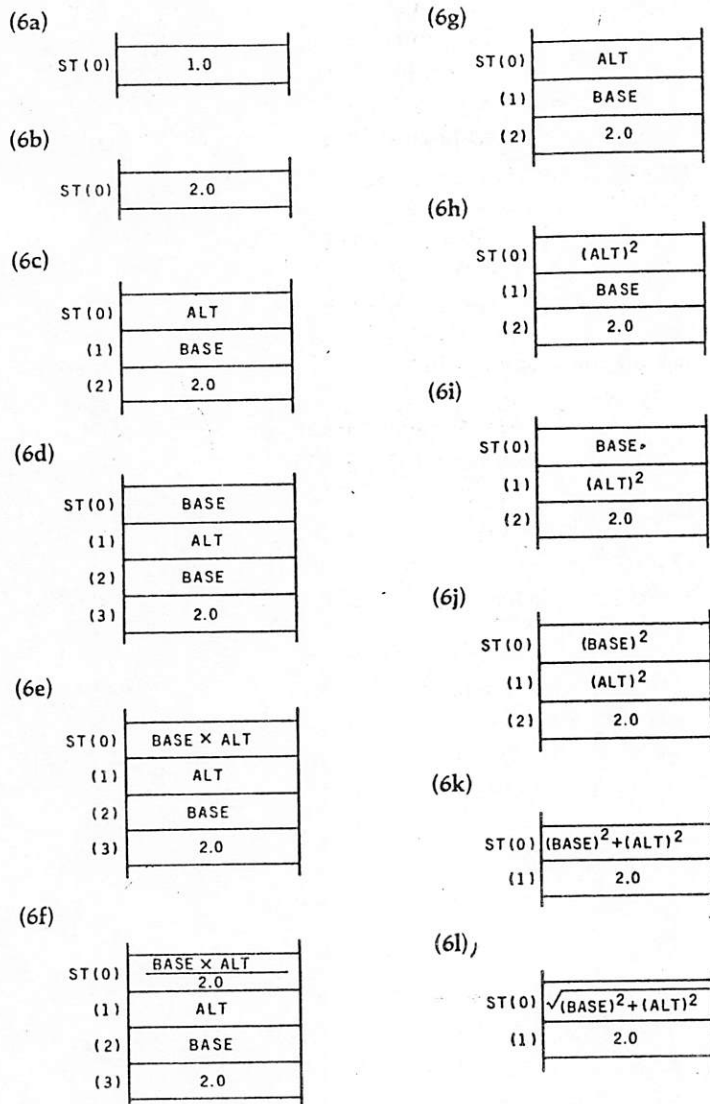

Figure 6: The status of the NPX stack during operation of the program in listing 1.
The following application of the 8087 uses an Intellec Series III Microcomputer Development System and Intel's 8087 software emulator (see listing 1). The program takes the base and altitude of a right triangle, which are stored in memory as two fields of a structure called TRIANGLE, and uses this data to calculate the area of the triangle and the length of its hypotenuse. Notice that I define the fields of the structure as double words (DD). This allows me to define the variables in the Short Real format. I will discuss the program using both the listing and a chart in figure 6 that tracks the status of the NPX's stack as references. When I refer to the chart, I use lower-case letters in parentheses.